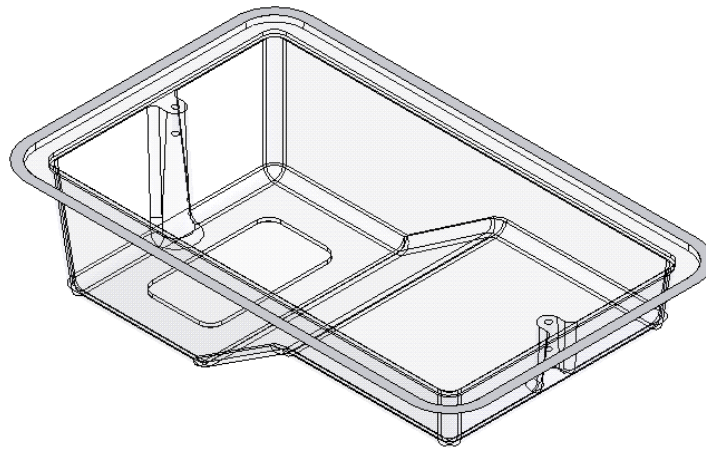

Figure 17-38 After creating the radiated surface
- Using the top-down approach, extract the core and cavity of the Plastic Cover, refer to Figures 17-38 through 17-46.
4. Using the **Radiate Surface** tool, create a radiated surface with the radiate distance of 9mm, refer to Figure 17-38.